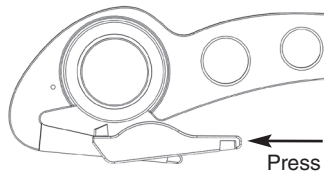

Fig. 3
2. Place the washer (2) on the blade.
3. Install the washer and the blade by using the knurled screw (1).
4. Slip the support (4) over the projecting arm (the hook). (fig. 3)